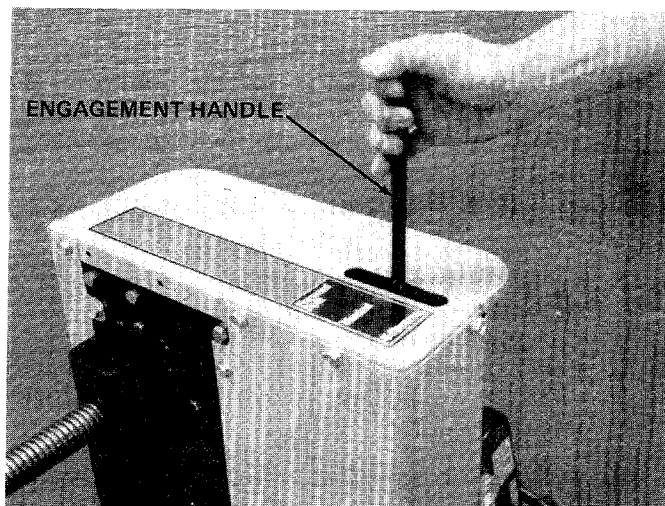

FIGURE 1
2. Thread the engagement handle into the engagement handle bracket as shown in figure 1.